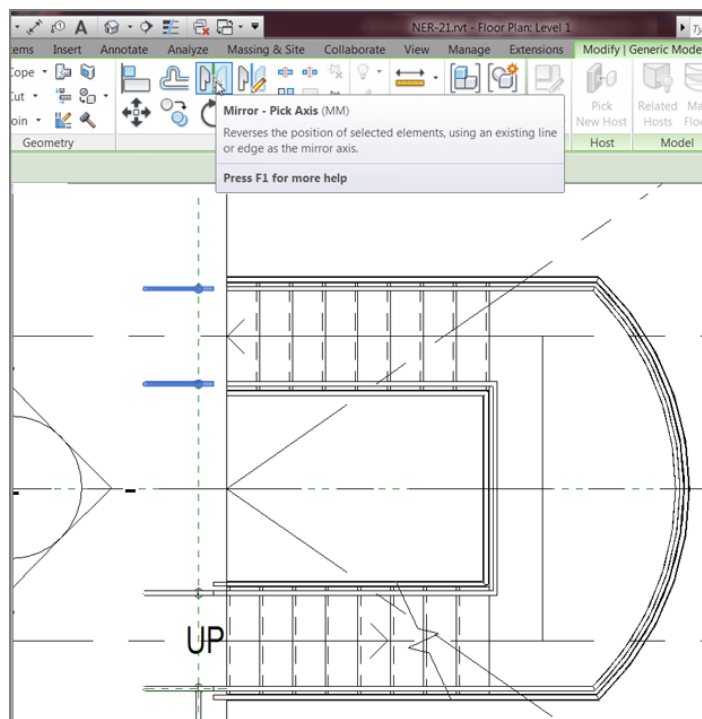

FIGURE 10.25: Mirroring and configuring the two railing extensions
1. Still on the second floor, select the two ADA - Pipe families, and click the Mirror - Pick Axis button as shown in Figure 10.25.